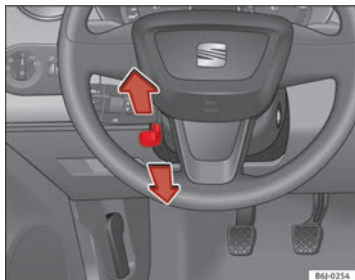

Fig. 105 Steering column height adjustment
- Push the lever under the steering column ⇒ Fig. 105 down ⇒ ⚠.
- Adjust the steering wheel until the correct position is set ⇒ Fig. 105.
- Adjust the driver seat or steering wheel so that there is a distance of at least 25 cm between the steering wheel and your chest ⇒ Fig. 105. If you fail to observe the minimum distance, the airbag will not protect you. Risk of fatal injury.